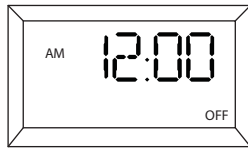

Figure 3
- Press and hold **RESET** for three seconds. The word "Reset" will appear on the display, and the display should flash "12:00 am". See Figure 3. Proceed to step 2 - SETTING THE CURRENT DAY AND TIME.